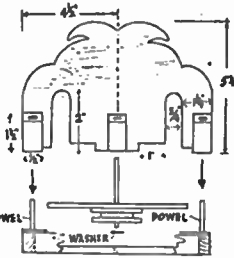

Fig. 3
Through the centre of the disc cut from the board, drill a $\frac{1}{4}$ in. diam. hole. A pulley is made up of a disc 2 $\frac{1}{2}$ ins. diam. glued between two 3in. diam. discs in the same way as the smaller pulley, and again these have a hole through which an axle rod (about $\frac{1}{4}$ in. diam.) is firmly glued. The turntable and pulley glued together is shown in Fig. 3. The axle rod is 2 $\frac{1}{2}$ ins. long, and about $\frac{1}{4}$ in. projects through the pulley so that it fits loosely into the hole provided for it in the cross-strip (A).